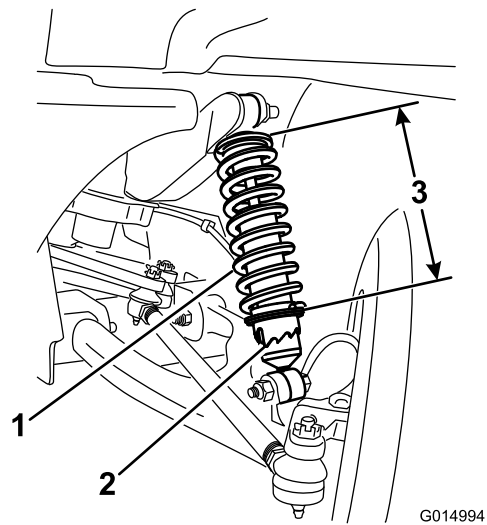

Figure 33
3. Using tool TORO 6010, rotate the collar on the shock absorber to change the length of the spring (Figure 33).